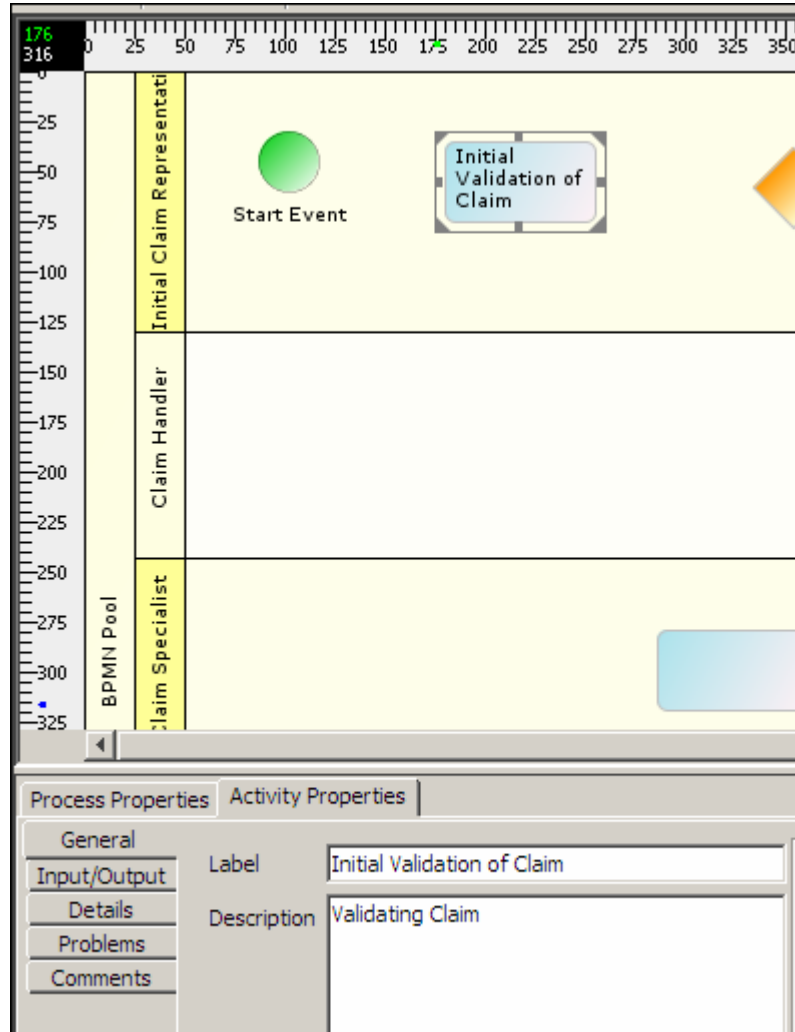

Figure 7.8: Displaying Name of Activity
2. When you click an element, the **General** tab appears as selected. Enter the name and description for the selected activity element in the *Label* and *Description* fields. Click the element again in the Graph Canvas to display the name in the element (see Figure 7.8).